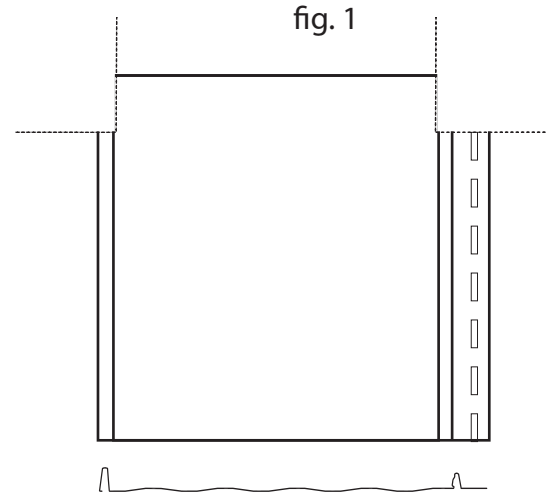

fig. 2
step 2. Cut and remove the male and female legs of the panel. (see fig. 2)